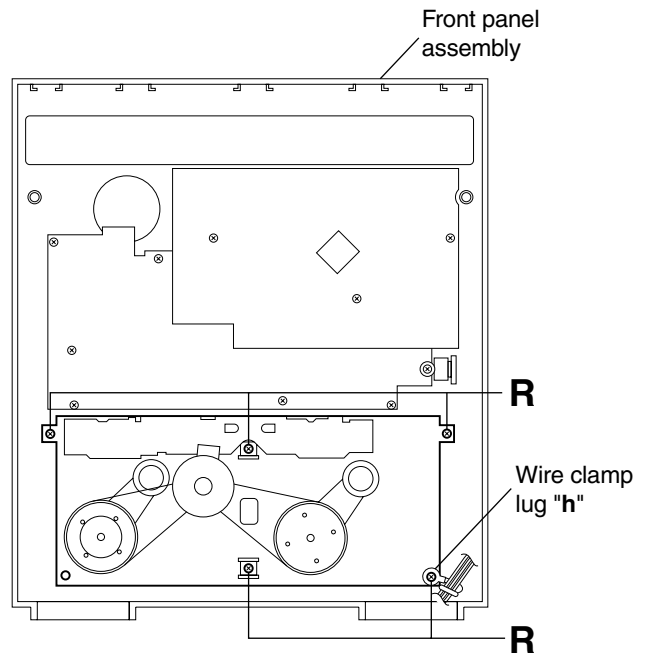

Fig.22
■ Removing the cassette deck mechanism (See Fig.22)
■ Removing the cassette deck main motor, and replacing the main belts (See Fig.22, 30 and 31)
■ Removing the leaf switches of the cassette deck mechanism (See Fig.22 and 32)
(See Fig.22 and 33)